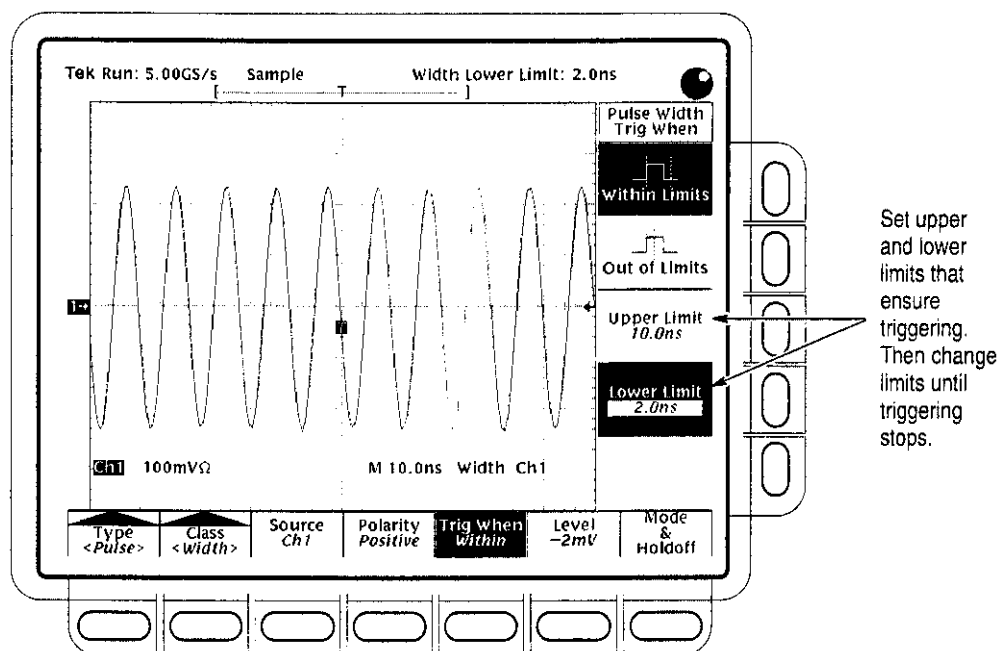

Figure 1-14: Measurement of Time Accuracy for Pulse and Glitch Triggering
- c. *Set upper and lower limits that ensure triggering:* See Figure 1-14.